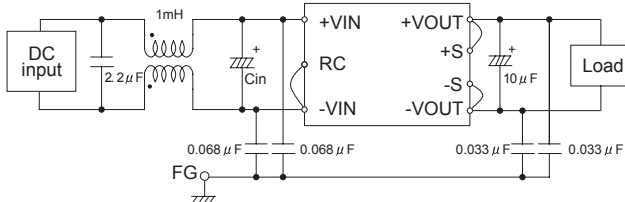

Fig.3.1 Recommended external input filter
- Install an external input filter as shown in Fig.3.1 in order to reduce conducted noise.  $C_{in}$  is shown in Table 2.1.